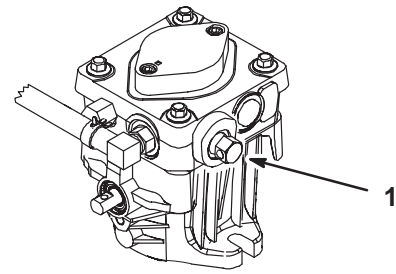

Figure 24
2. Rotate the by-pass valves counterclockwise 1 turn to push. This allows hydraulic fluid to by-pass the pump enabling the wheels to turn (Fig. 24).
Turn the by-pass valves in to operate (Fig. 24).